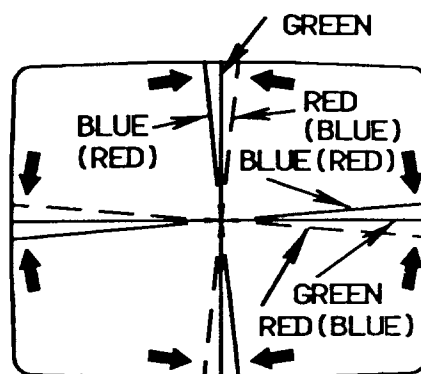

FIGURE 12. DYNAMIC CONVERGENCE A
- c) Tilt the deflection yoke up and down. Insert tilt adjustment wedge 1 and 2 between the deflection yoke and the CRT until the misconvergence illustrated in FIG.12 has been corrected.